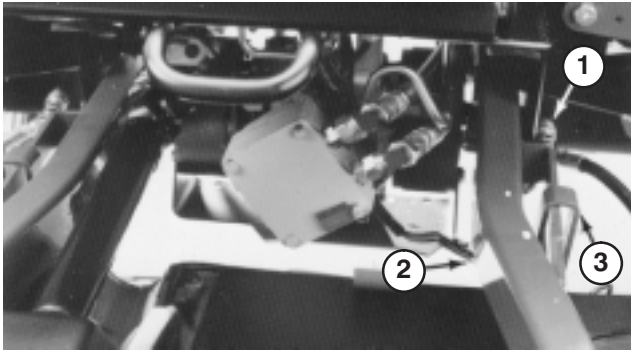

Figure 14
2. Disconnect (3) hydraulic lines (quick couplers) and wire harness at rear of deck (Fig. 14).
3. Remove hairpin cotters and H.O.C. pins securing rear deck straps to H.O.C. brackets on deck (Fig. 14).